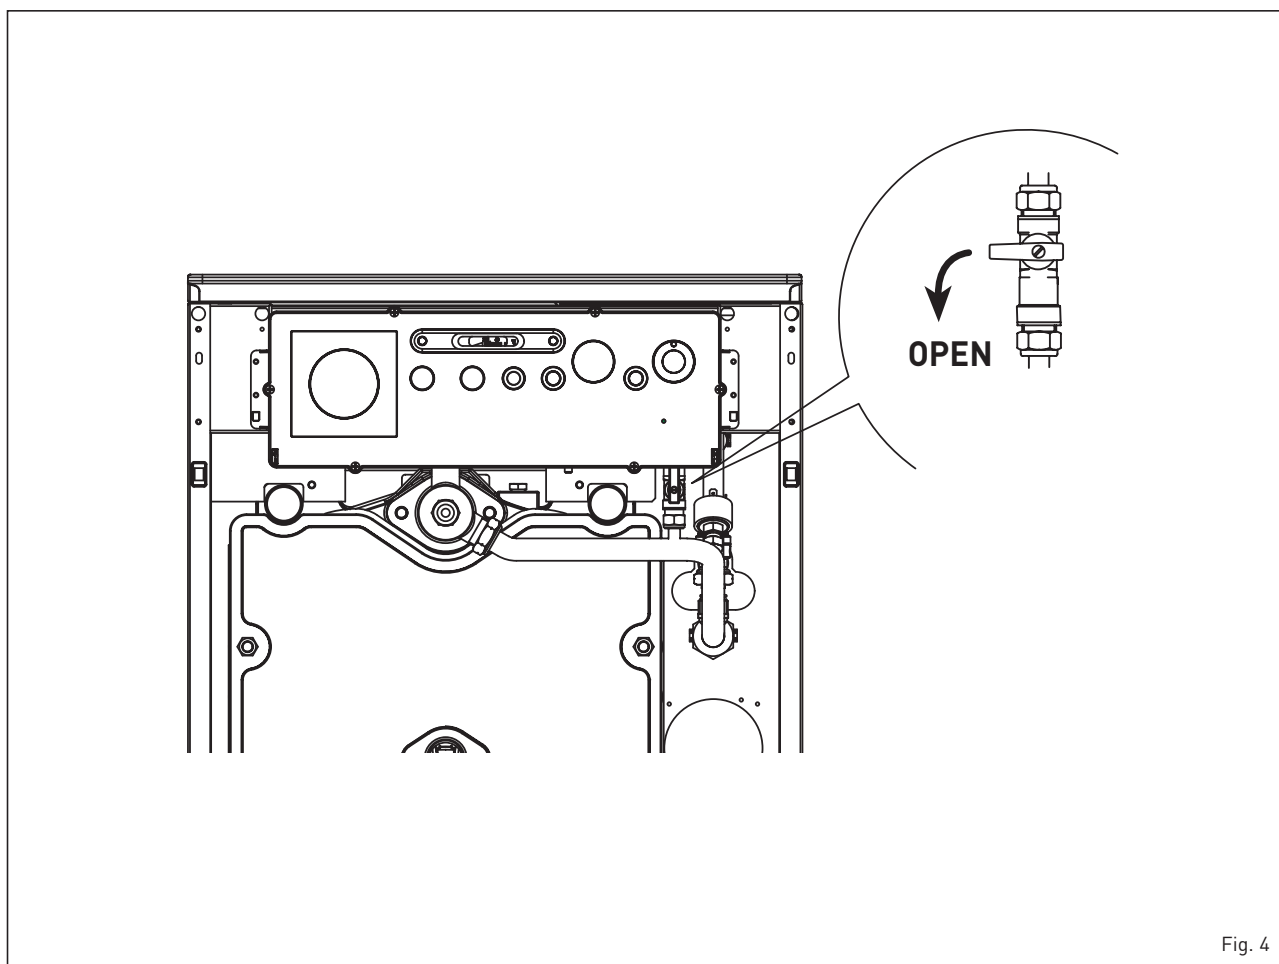

Fig. 4
2.2.1 System filling (fig. 4)
Filling must be done slowly so as to allow any air bubbles to be bled off through the provided air vents. This operation can be made easy by positioning horizontally the incision of the block screw of the shutoff valve. Upon completing the filling, put the screw back to its original position. At the end of the operation make sure that the tap is closed (fig. 4).